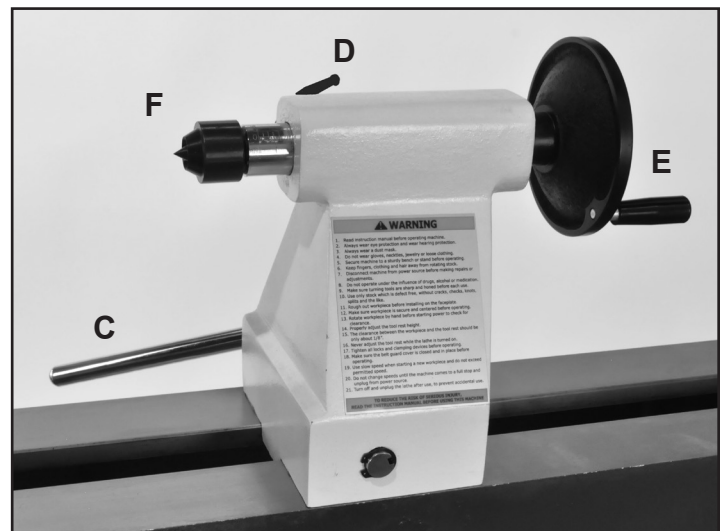

FIG. 9
13. **TAILSTOCK LOCK HANDLE:** (FIG. 9, C) Locks the tailstock in position along the length of the lathe bed. Unlock handle to position the tool rest to move the tailstock. Tighten handle when properly positioned.
14. **TAILSTOCK QUILL LOCK HANDLE:** (D) Secures the tailstock quill in position. Unlock the handle to move the quill, with live center, forward or backwards. Tighten the locking handle when the quill is finally positioned.
15. **TAILSTOCK QUILL HANDWHEEL:** (E) The handwheel advances or retracts the quill. The tailstock quill lock handle (D) must be loose to move the quill.
16. **TAILSTOCK LIVE CENTER:** (F) Used for turning between centers. The Live Center (#A11) and the Quill (#A12) have MT-2 tapers. Remove the live center by retracting the quill until the center loosens, or use the knockout bar.